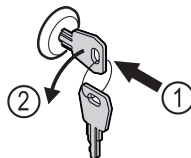

Fig. 201
- ▶ Insert the key. Fig. 201 (1)
- ▶ Turn the key anticlockwise by 90°. Fig. 201 (2)